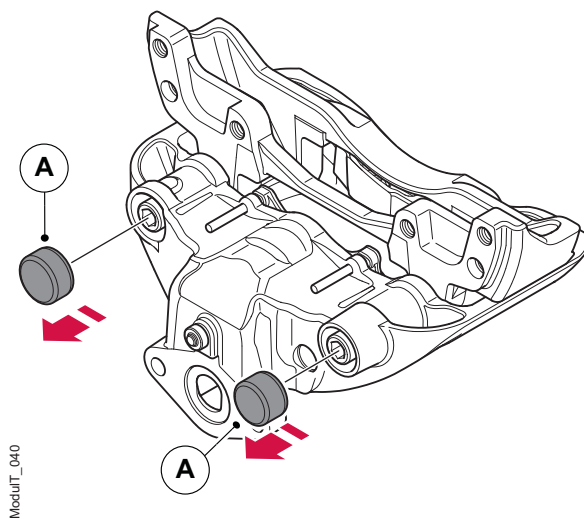

Figure 49. Remove slide protection cups .
2. Use a small hammer and chisel to remove the leading and trailing protective cups (A), see figure 49. The protective cups are not to be re-used.